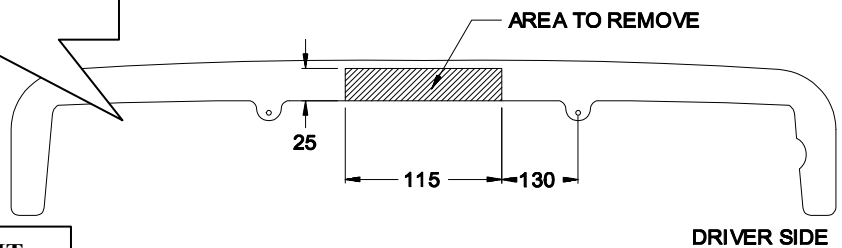

Fig 1
8. For vehicles from the 7th month of 2000 to 7th month of 2003 discard spacer plate and use M16 x 45 bolts, and see bumper cut fig 1.